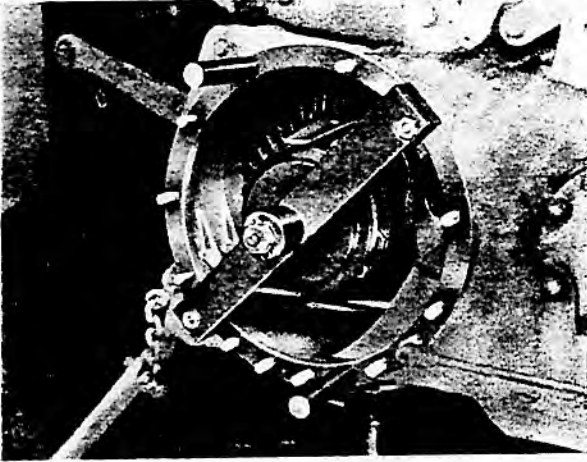

FIG. 26. USE OF M-F 245
5. Position ends of clamp bar over two studs on centre housing, as shown in Fig. 26.
8. Screw the two setting blocks onto opposite studs on centre housing, Fig. 26.